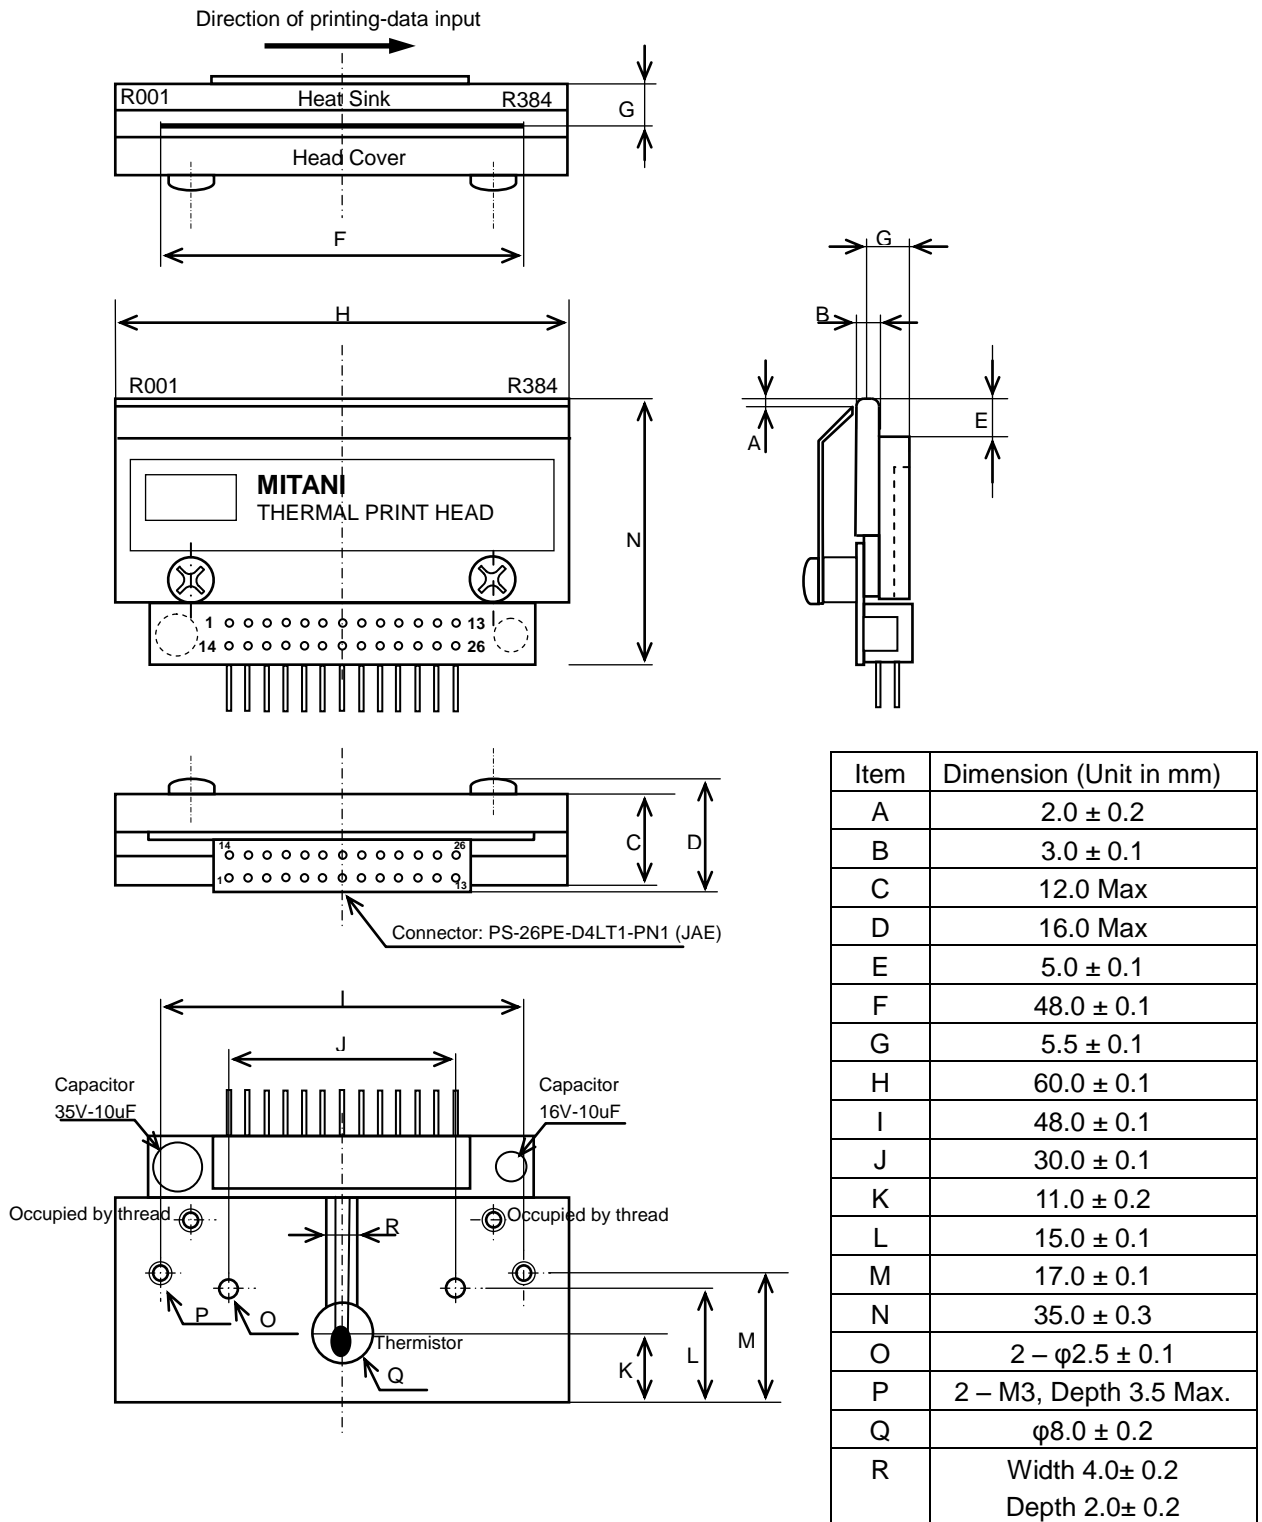

Fig. 1 Outline
| (1) Outline drawing | see Fig. 1 |
| (8) Direction of print data inputs | From left to right, Fig. 1 |
(9) Number of print line separation	5 strobes
(10) Thermistor	103ET-2